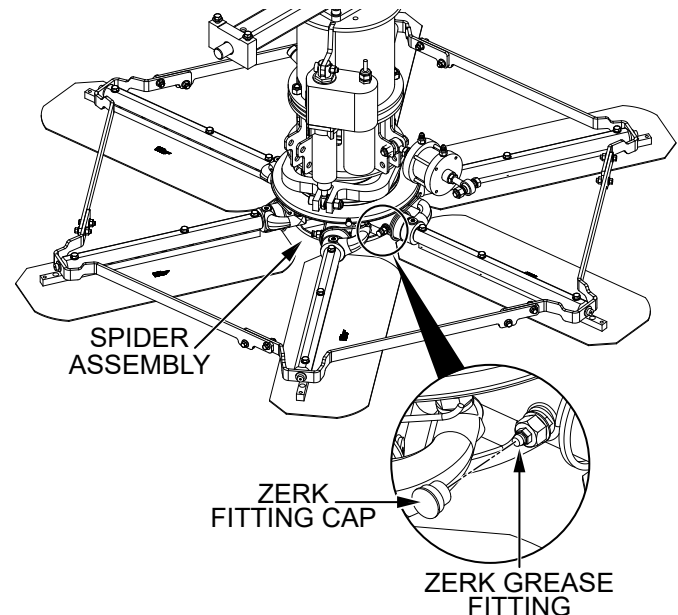

Figure 42. Spider Lubrication
1. Locate one of the **Zerk grease fittings** on either **spider assembly** (Figure 42). Remove the **Zerk fitting cap** and set it aside.